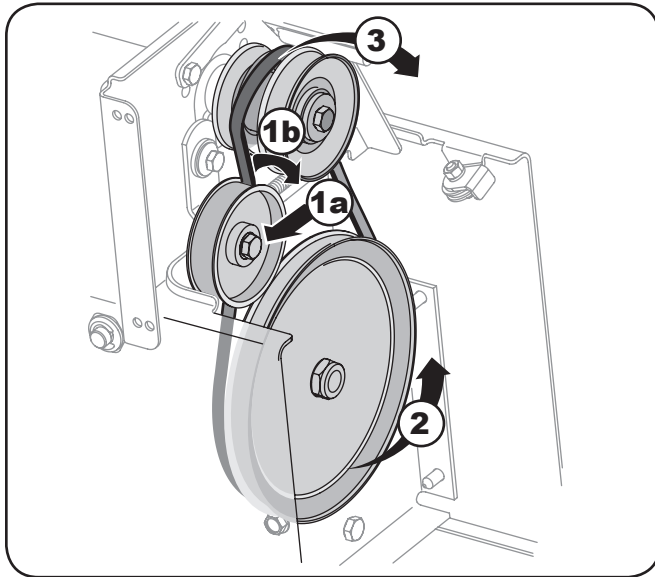

Figure 7-8
- Pull the idler pulley away from the backside of the drive belt to relieve the tension and slip the drive belt off the idler pulley. Carefully release the idler pulley. See Figure 7-8.